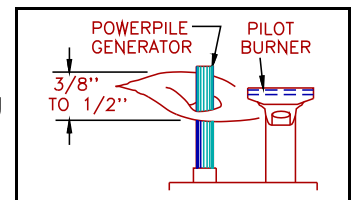

Figure 4
NOTE: After completing installation check for proper pilot flame (**Figure 4**) and burner operation (see Lighting Instructions) - If pilot flame is reduced by operating main burner, a pressure reading should be taken at the inlet side of the safety valve. Verify minimum required inlet pressure and re-test for gas leaks before proceeding with installation. Because of the varied conditions under which the log set operates, it is sometimes necessary to adjust the burner pilot flame.
To adjust the pilot flame: Remove the heat shield. Locate the pilot adjusting screw to the left of the control knob. Using a small screwdriver, turn the pilot adjusting screw until the flame resembles **Figure 4**. Now turn the log set on and readjust the pilot if necessary.
- 3) Call a qualified repair person to inspect and adjust the appliance. Make certain there is adequate gas pressure at the control and the pilot is adjusted as per figure 4.